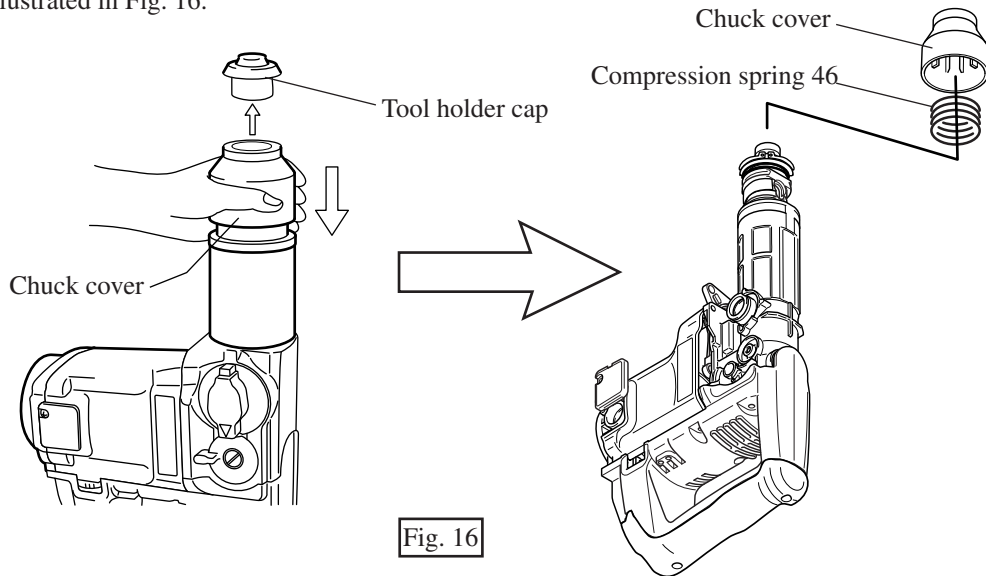

Fig. 16
- (1) Pull chuck cover down and take off tool holder cap. And then, remove chuck cover and compression spring 46 as illustrated in Fig. 16.